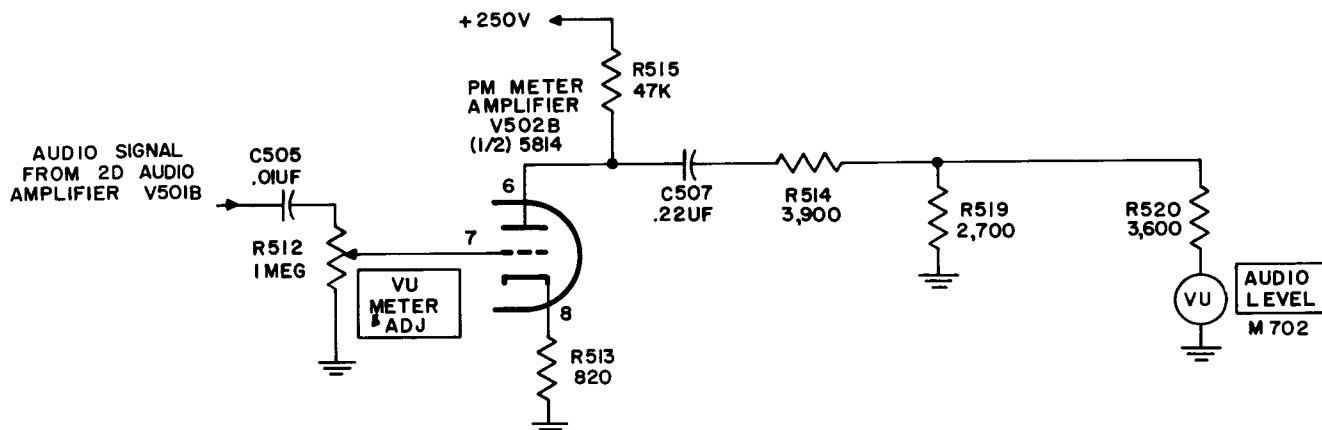

Figure 36. Pm meter amplifier and AUDIO LEVEL meter, simplified schematic diagram.
69. Pm Meter Amplifier V502B and AUDIO LEVEL Meter M702 (fig. 36)